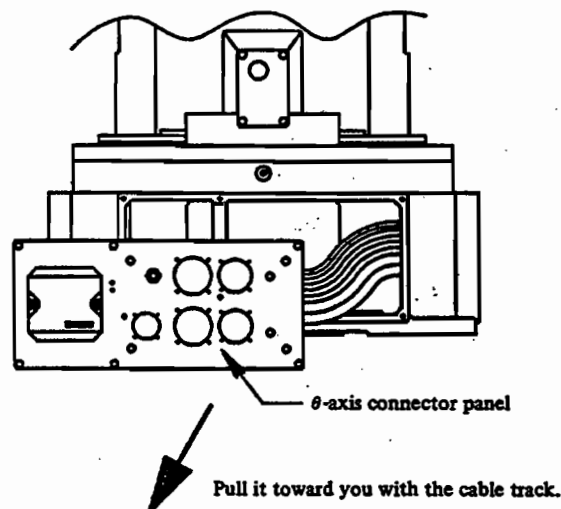

Fig. 7.2 (f) Replacing cables (S-700)
- ⑬ Open the cover of the cable track with a screw driver and pull out the cables. (See Fig. 7.2 (g).)
- ⑭ Cut all tie wraps and remove the connectors from the θ -axis connector panel.